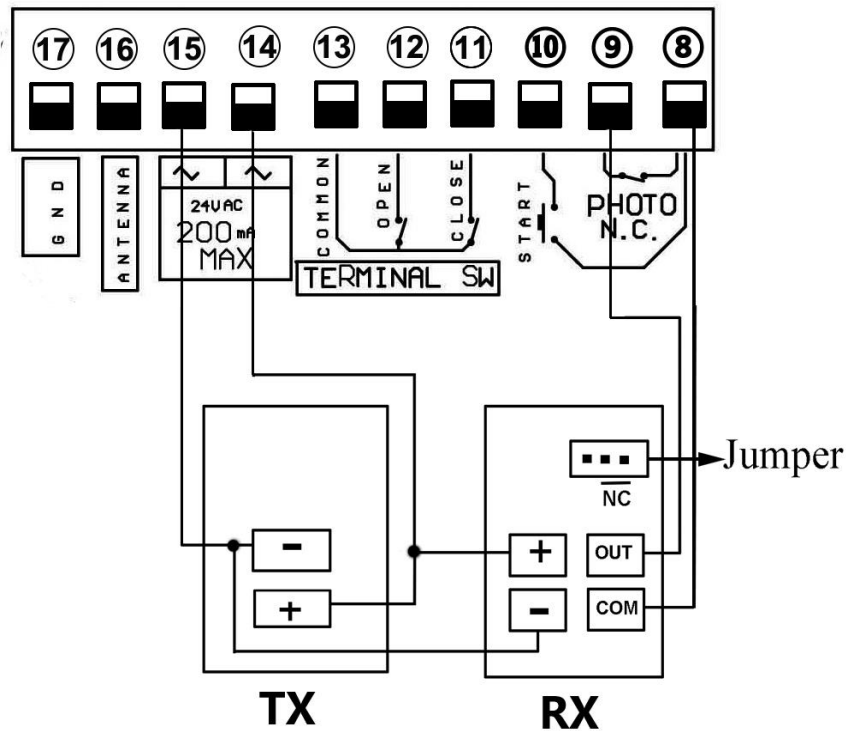

Fig 10
6.4. Connect to infrared sensor.(Please see Fig 10)
Please note: 220VAC sliding gate control board is designed to connect NC model of photocell, So please keep the jumper on the NC, as picture Fig 10 shows!